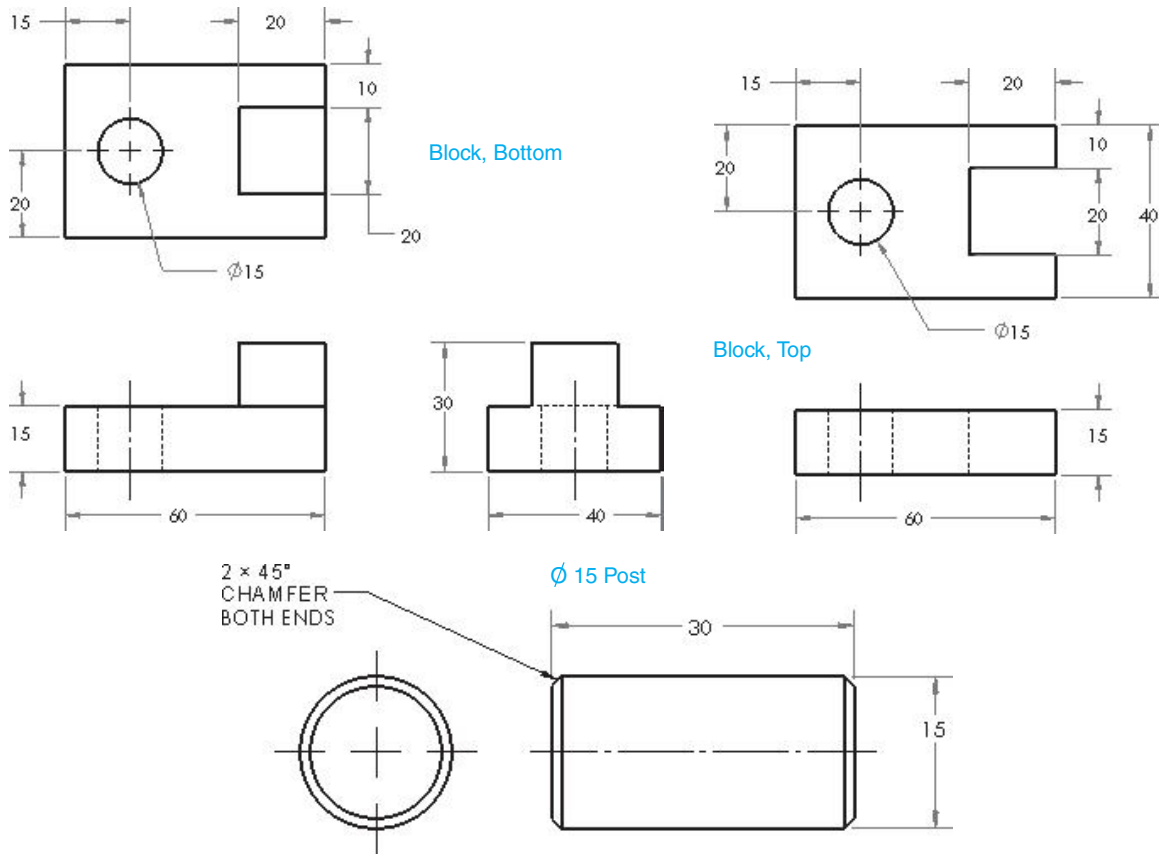

Figure 5-25
*Bottom-up assemblies* are assemblies that are created for existing parts; that is, the parts have already been drawn as models. In this example the three parts shown in Figure 5-25 have been drawn and saved.